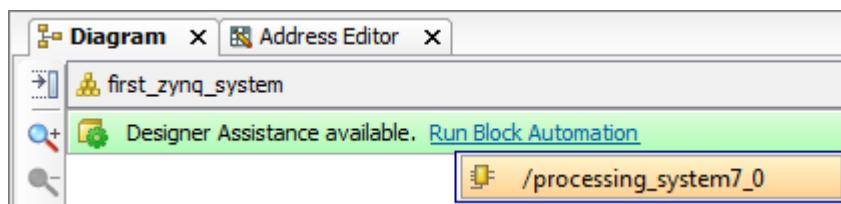

Figure 1.13: Run Block Automation - Processing System
- (e) Click the **Run Block Automation** option from the *Designer Assistance* message at the top of the Diagram window and select **/processing_system7_0**, as shown in Figure 1.13.